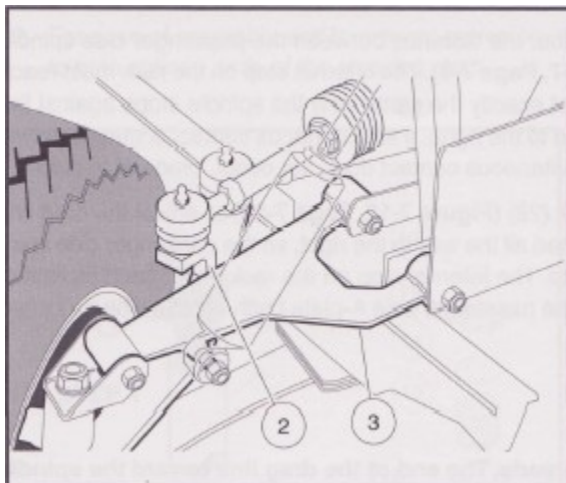

Figure 7-7 Adjusting Steering Alignment
1. Turn the steering wheel all the way to the right. Note the distance between the passenger side spindle stop (2) and passenger side A-plate (3) (Figure 7-7). The internal stop on the rack must reach its limit of travel against rack and pinion housing at exactly the same time the spindle stops against the passenger side A-plate (with vehicle wheels turned to the right). If simultaneous contact occurs, steering is in correct adjustment; Proceed to Step 4. If simultaneous contact does not occur, proceed to Step 2.